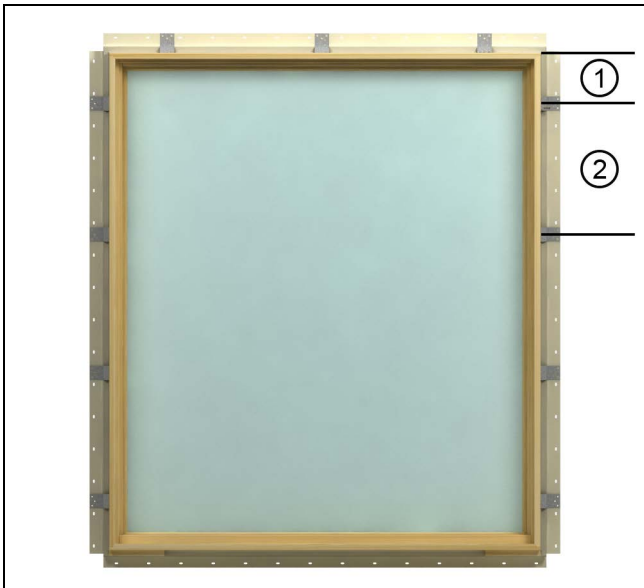

Figure 1
1. Attach clips to the unit jambs and head jamb (and sill for Round Tops) with #7 x 5/8" screws 6" (152) maximum from each corner and 18" (452) maximum. For ELIFD Impact instructions, refer to the Elevate Inswing Installation Instructions. See Figure 1.